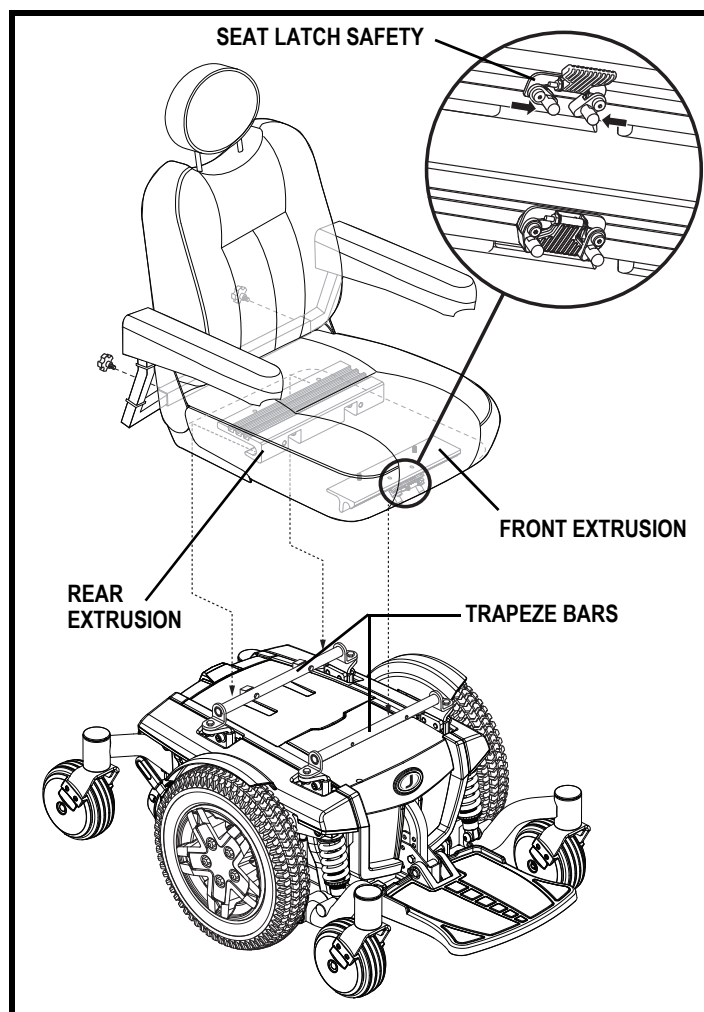

Figure 7. Universal Mounting System and Contour Seat
It may be necessary to install the seat either prior to initial operation or after transporting your power chair. Contour seats are attached to the power base with the Universal Mounting System (UMS). The UMS consists of universal parts that may be attached to the seat, regardless of seat width or seat depth. The two main components are aluminum extrusions mounted to the seat base. These extrusions attach to a pair of trapeze bars that are mounted to the power base. See figure 7.
1. Tilt the seat back and slide the rear extrusion onto the rear trapeze bar. See figure 7.
4. Flip up the seat latch safety. See figure 7.